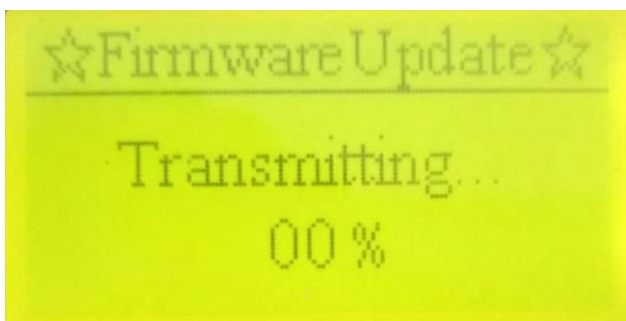
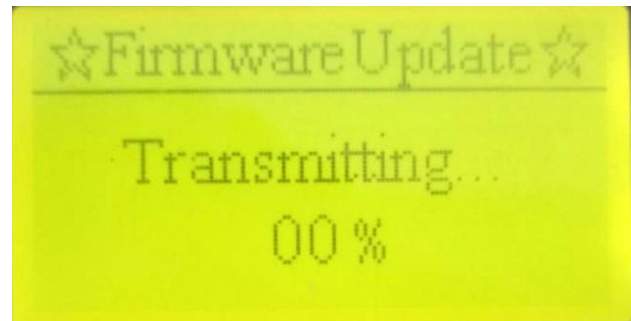

Figure 2.3
Figure 2.4
3. For the new version carrier of the field controller, push and hold the menu key and power button simultaneously until interface show as Figure 2.3, push menu key to select **[Transmit Program]**, and push the **【Enter】** key to start transmit the program, interface shows as Figure 2.4